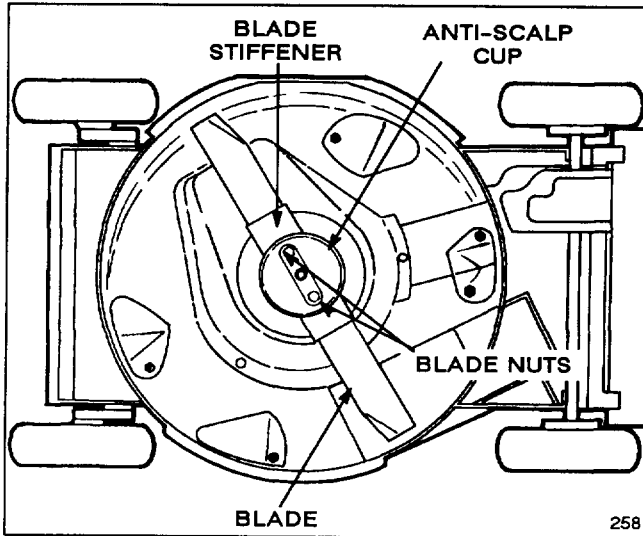

Figure 16
3. Tip mower on its right side (Fig. 16). Avoid rotating blade because starting problems may result.
5. **REMOVING BLADE**—Grasp end of blade using a rag or thickly padded glove. Remove (2) blade nuts, anti-scalp cup, blade stiffener, and blade (Fig. 16).